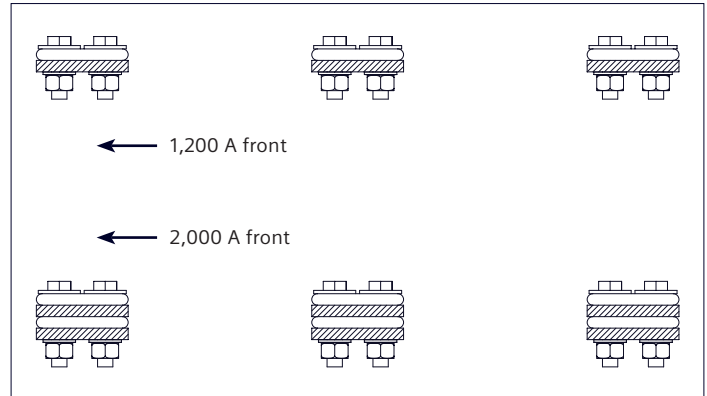
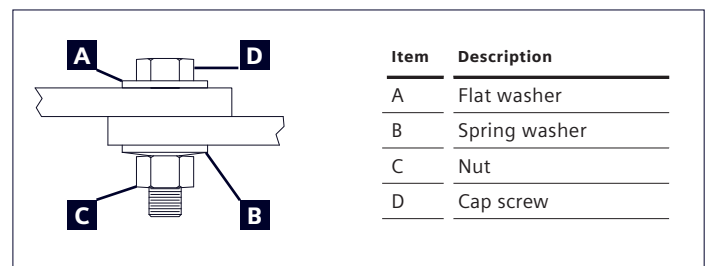
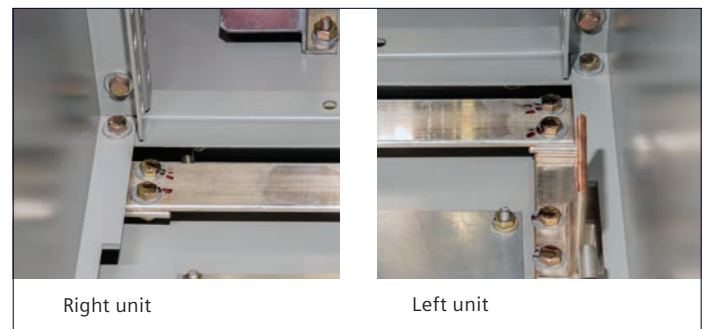

Figure 15: Main bus joint connection configurations
Figure 16: Main bus joint connection configurations
Figure 17: Ground bus connection at shipping split
When a switchgear lineup is split for shipping purposes, the horizontal bus (main bus) and ground bus connections between shipping groups must be made when installing the equipment. These bolted connections are relatively simple to make. Refer to Figure 15: Main bus joint connection configurations for the possible main bus joint connection configurations; Figure 14: Access to main bus on page 26 which illustrates how to access the main bus area; Figure 16 shows a typical bus joint; and Figure 17 shows the ground bus connection details.
- Use proper hardware, as shown in Figure 16. A heavy flat washer is used under the cap-screw head, and a heavy spring washer is used under the nut. These washers ensure an evenly distributed force around each bolt, producing a low-resistance joint. Proper torque value produces a joint of adequate pressure without cold flow.
- Assemble all joints as shown in Figure 15: Main bus joint connection configurations. Install all hardware the same way that factory bus connections were installed. Hardware must be aligned properly or molded insulation boots (if provided) may not fit over the joints.
- Connect ground bus (refer to Figure 17: Ground bus connection at shipping split on page 27). Insert splice bar through side wall between shipping groups to connect the ground bars in adjacent cubicles.
The frame of each switchgear section must be electrically grounded. This connection must be made before making power connections. A common ground bus is incorporated in all sections for grounding the equipment during installation. The ground bus extending through the switchgear is accessible in the rear area of each section as seen in Figure 17: Ground bus connection at shipping split on page 27 or in the front area of each section for front-access only switchgear. The control and instrumentation circuits are grounded to the enclosure. This connection can be temporarily removed for test purposes, but it must be reconnected before the switchgear is placed into operation.